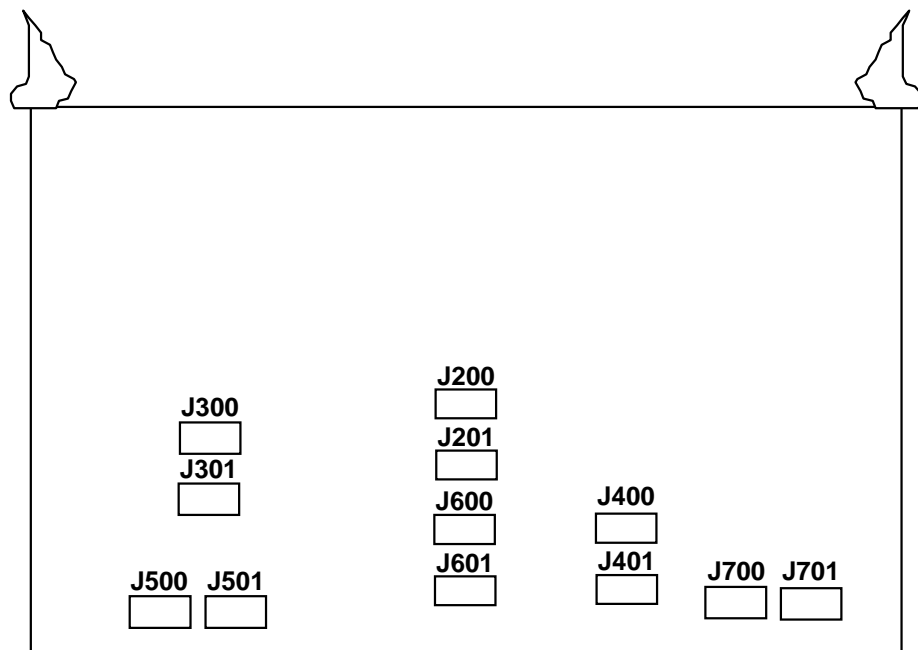

Figure 3-8 Vertical Scan Jumpers on the Vertical Deflection Board.
3. Adjust green G2 so that the small, black rectangle in the center of the larger, black rectangle is just barely visible (Figure 3-8).